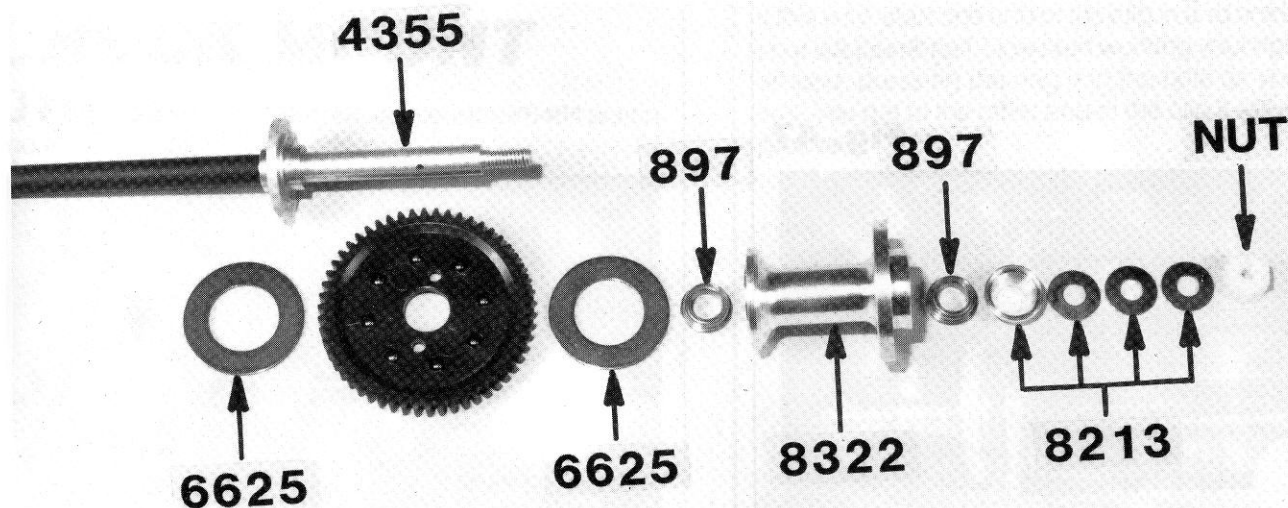

**Fig. 44**
□ **Fig. 44**— Slip one of the #8321 axle spacers onto the #4355 axle so that the side of the spacer that has a small step on it will be facing the ball bearing.
□ **Figs. 44, 45 & 46**— We're ready to build the rear axle assembly. Slip one of the #6625 differential drive rings onto the #4355 axle, as shown in Fig. 44. *Racer's Tip:* The Expert Class racers will put a drop of Super Glue, like ZAP or Hot Stuff, where the arrow is pointing to glue the drive ring to the aluminum hub.